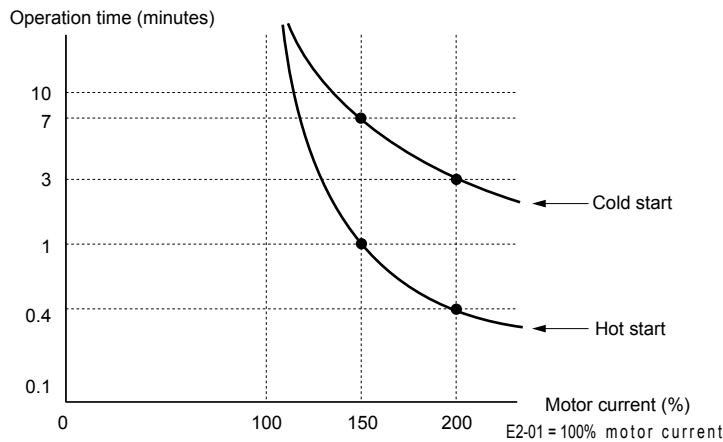

Figure 5.34 Motor Protection Operation Time
- *Figure 5.34* shows an example of the electrothermal protection operation time using a general-purpose motor operating at 60 Hz with L1-02 set to one minute.